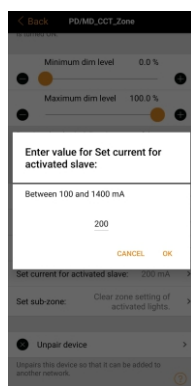

Fig.5
2. Type in the desired current value for the slave driver in the dialog box (Fig.5).